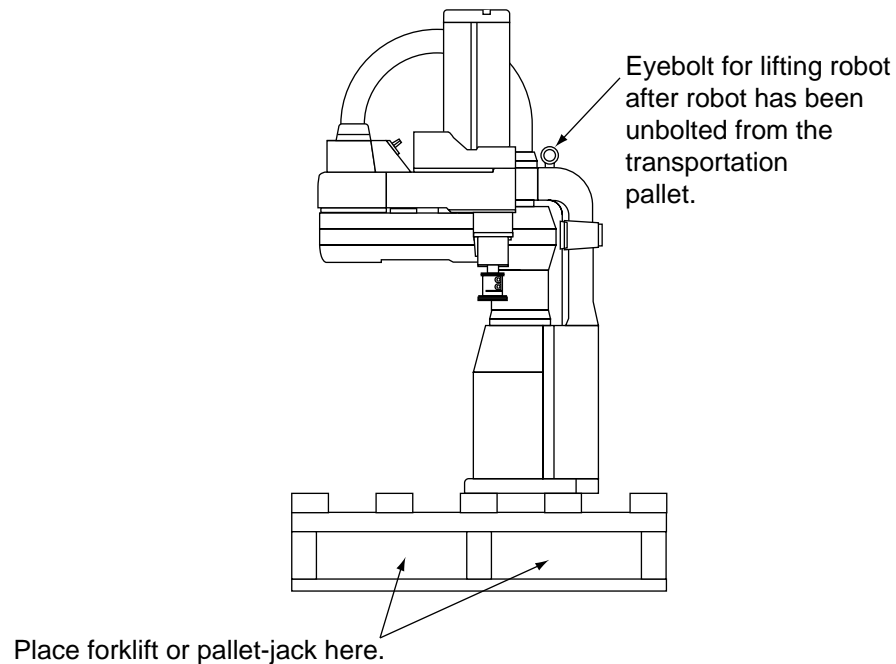

Figure 2-1. Adept 550 Robot on a Transportation Pallet
For the transport and storage of the crates and boxes use a adequate tool, for instance a pallet jack or a fork lift. See Figure 2-1.
2. While the robot is still bolted to the transportation pallet, connect the hydraulic lift to the eyebolt at the top of the robot, see Figure 2-1. Take up any slack but do not lift the robot at this time.